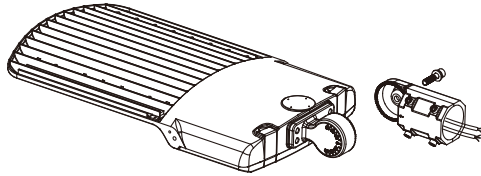

Figure 1
- Pass the input cable of the fixture through the Slip Fitter Part A and fix it to the fixture with Pivot Bolts. (Figure 1)